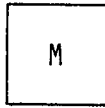

Figure 2 (motor with shaft)
The interface card itself is shown in Figure 2 with IC A used to request the required wait states. Before examining the circuit, I would like to thank MITS for their indirect assistance in the design of this interface card. Owners of the MITS 1K Static and S10B cards will note a distinct resemblance in the decoding, wait state generation, and interrupt enable circuitry.
(Apart from these areas of similarity, the design is all mine; patents are pending.) Not shown on the schematic of Figure 2 are 2 hex buffers for the 12 address lines and pull-up resistors on the 8 data lines. While the Altair computer uses separate input and output busses, the VRAM uses a bidirectional bus which is split, using 8T97s, ICs, F, G, and H. Four gates of F and 4 of G comprise the data in, and 6 of H and 2 of G are used for data out. To the left of the schematic, the ICs N and 0 select either the data out or data in lines, depending on the states of SOUT, SIMP, SMEMR and, of course, the address lines A12 to A15 (IC N6). DI is selected through IC 0 pin 6, and DO is selected through IC 0 pin 3. IC 0 pin 8 is active low during both read and write operations. It is this signal applied to IC L pin 12 plus the BV signal applied to IC L pin 13 that produces the chip select (CS) pulse at IC L pin 8. CS is also, possibly unnecessarily, a function of M1, because IC 0 8 will go low during the latter part of M1. IC L pin 11 also enables two gates of IC F via pin 15 of F. The R/W signal is applied through one to the VRAM, and the other is the source of the PRDY signal to the processor.